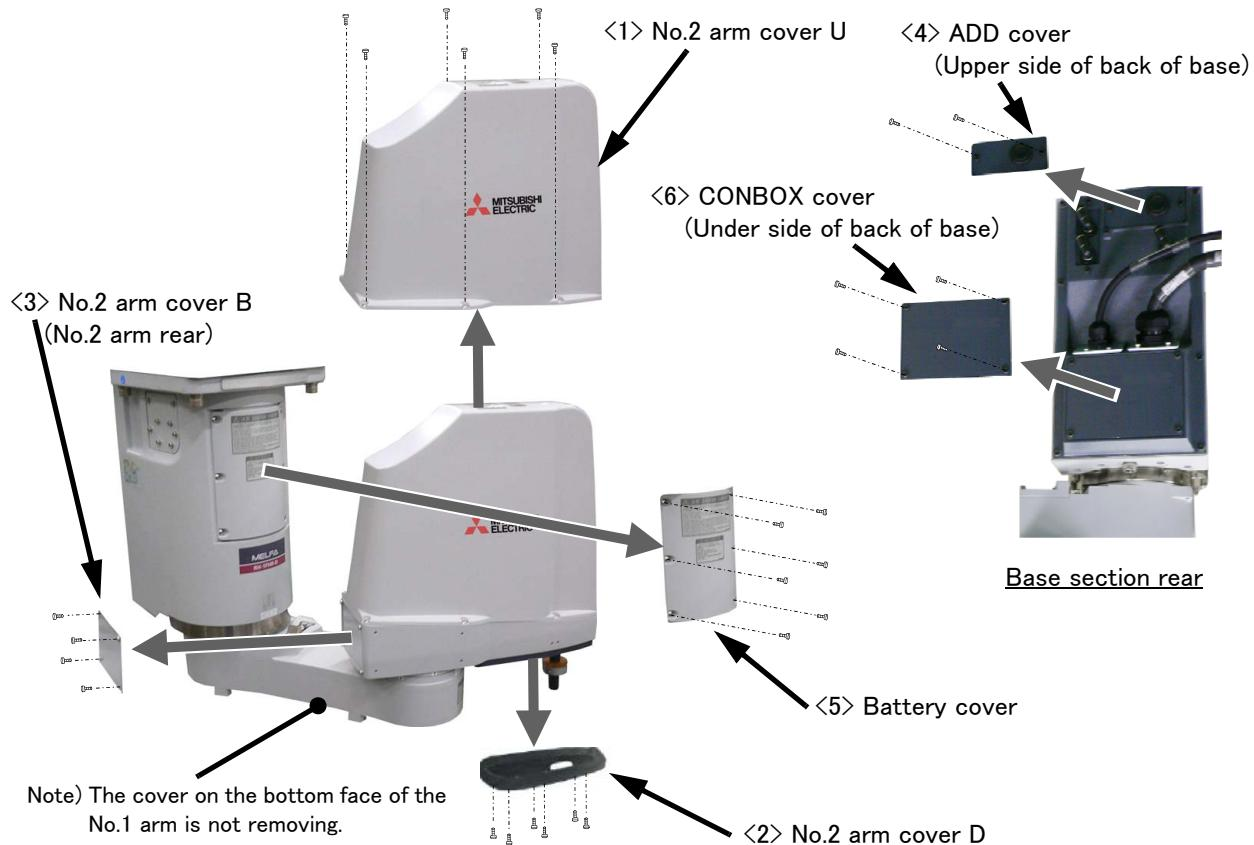

Fig.5-3 : Installing/removing the cover
- (1) Refer to Fig. 5-3 and remove the covers.
- (2) The names of the covers and installation screws are given in Table 5-3.
- (3) When reattaching the covers after a maintenance inspection, proceed in the reverse order of their removal. Tightening the screw with the torque shown in Table 5-3.
- 2) Refer to Page 70 "Fig. 5-3: Installing/removing the cover", and remove the No.2 arm cover U.